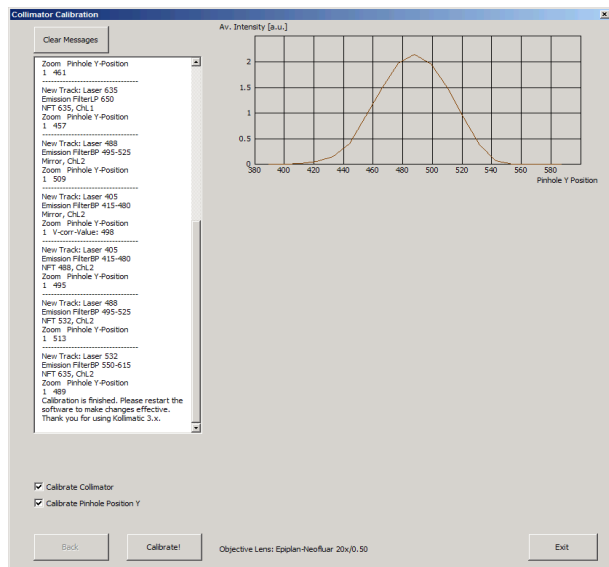

Fig. 5-13 Collimator Calibration Window
- Make sure that both check boxes have been selected (Fig. 5-13)